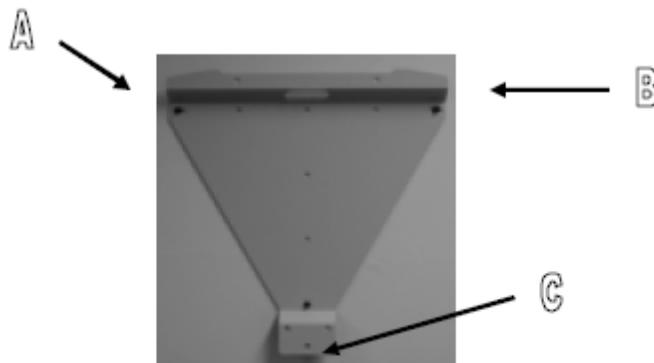

Figure 1: Mounting Bracket
1. Locate the wall studs in the desired location and align the mounting bracket over the studs. Mark the mounting holes. Ensure that locations A and B (as indicated in Figure 1 below) are aligned over the wall studs.
2. **MAKE SURE BRACKET IS LEVEL.** Ensure points A and B are aligned with wall studs. Drill 1/8" pilot holes for the screws. Use heavy-duty 1/4" x 2" coarse thread lag screws to secure points A and B to the wall. Use an 1/8" screw to secure point C. See Figure 1.